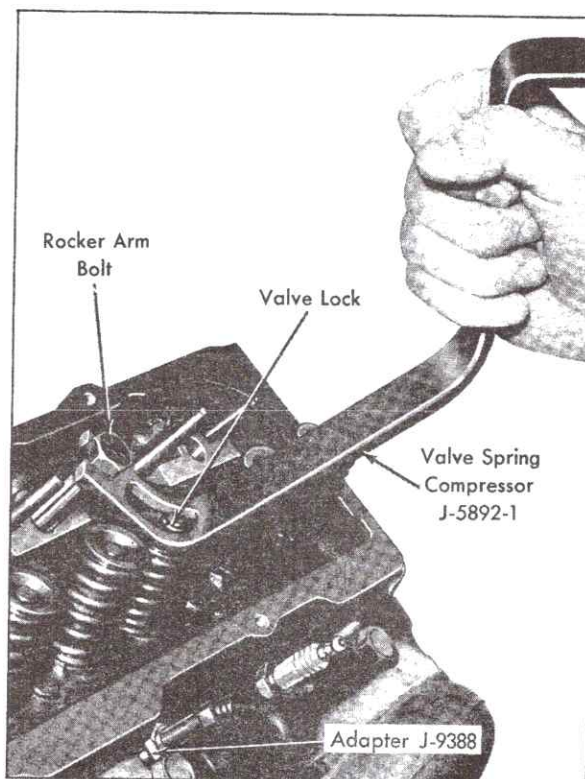

Fig. 6-129 Compressing Valve Spring
7. Remove spark plug at affected cylinder, install Adapter J-9388 in spark plug port, and apply air pressure to hold valve up and seated when spring is being compressed, as shown in Fig. 6-129.
8. Reinstall rocker arm cap screw nearest to affected valve, position end of Valve Spring Compressor, J-5892-1, under head of cap screw, and depress valve spring and retainer as shown in Fig. 6-129.